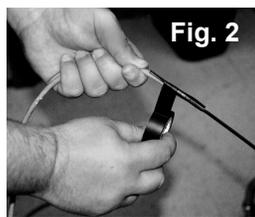

Fig. 2
2. Locate the end of the cable that has PIN terminals installed on the wires. Cut off the non-insulated wire (not used) and strongly secure the ty-wrap to the cable with electrical or similar tape. It is important to have a sufficient length of the ty-wrap secured to the cable (2" minimum) (Fig. 2).